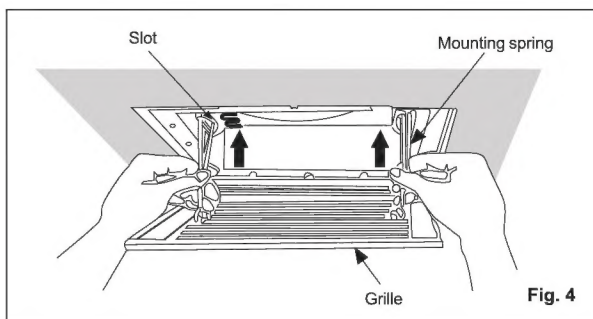

Fig. 4
9. Insert mounting springs into slots as shown and mount grille to fan body. (Fig. 4)
6. Mount grille to fan body. (Fig. 4 of page 5).